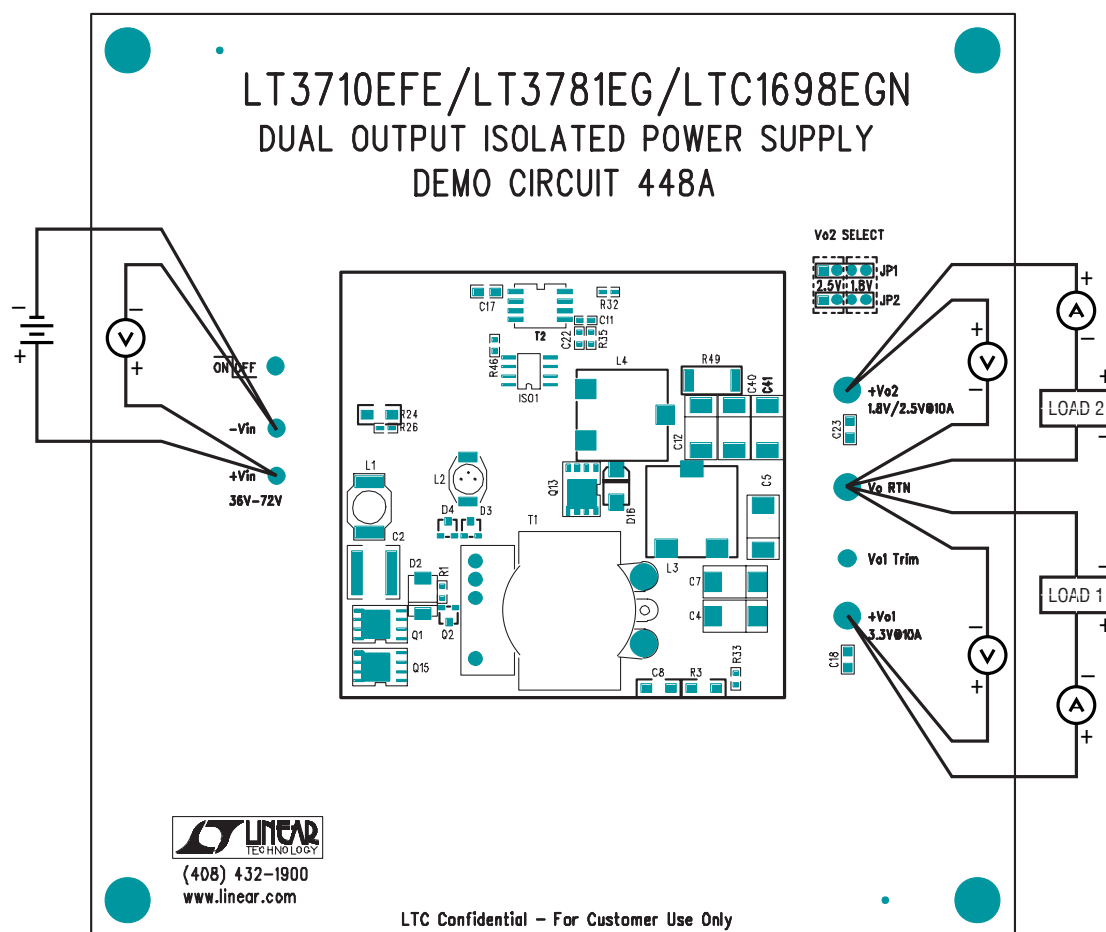

Figure 1. Proper Measurement Equipment Setup
Demonstration circuit DC448 is easy to set up to evaluate the performance of the LT3710, LT3781 and LTC1698. Refer to Figure 1 for proper measurement equipment setup and follow the procedure below:
5. Connect the 3.3V load (Load 1 in Figure 1) between +Vo1 and Vo RTN; connect the 1.8V/2.5V load (Load 2 in Figure 1) between +Vo2 and Vo RTN.